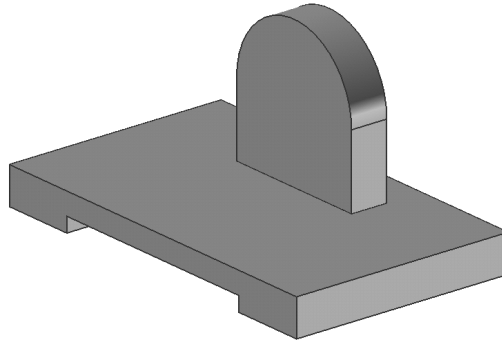

Figure 8-52 The model after creating the edge blend feature
- e. Create the edge blend on the pad feature using the **Edge Blend** tool, refer to Figure 8-52
3. Choose the **OK** button from the **Edge Blend** dialog box. The rectangular pad, after creating the edge blend feature, is shown in Figure 8-52.